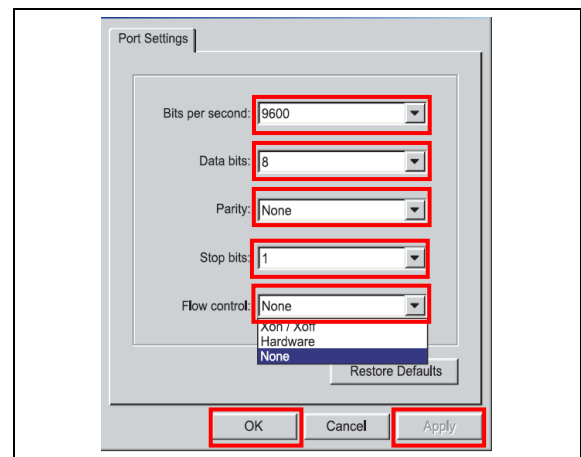

Figure 3
- (3) Turn ON the generator and reset the error 41 or error 42.
(4) Start **HyperTerminal** on the Service PC with default settings.
(5) Set the serial Com Port used in the computer in the Terminal software that is used.
(6) Set the serial configuration as shown in figure 3.